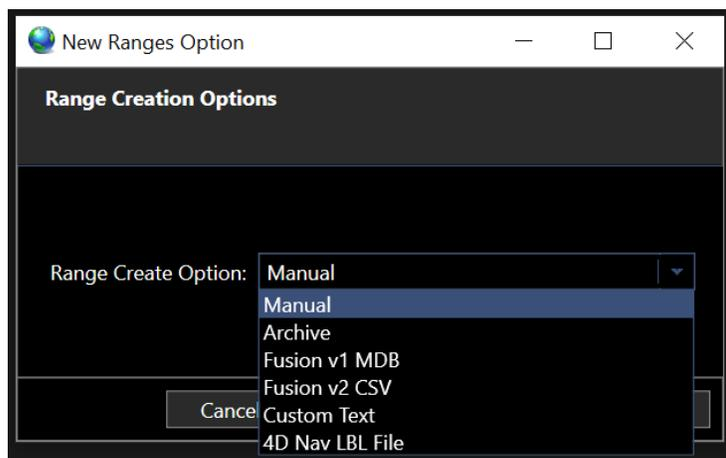

FIGURE 65 RANGE CREATION OPTIONS DIALOG
- To add or import baseline data, select the button at the top of the baseline data page. This brings up the Range Creation Options dialog, see Figure 65, where the type of data can be selected.